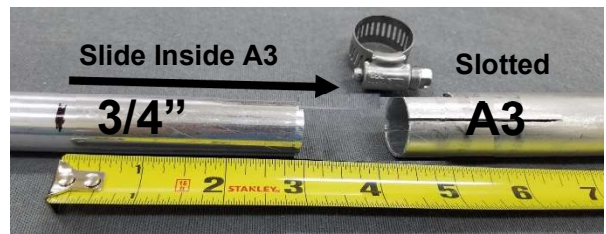

FIGURE 41
- **STEP 6.37** Measure and place a 3" mark on the non-slotted end of the 3/4" tube, as shown in **FIG. 41**.
- **STEP 6.38** Slide the 3/4" non-slotted tube into / inside the slotted end of 7/8" tube of section A3 – and up to the 3" mark, as shown in **FIGs 41 and 43**.